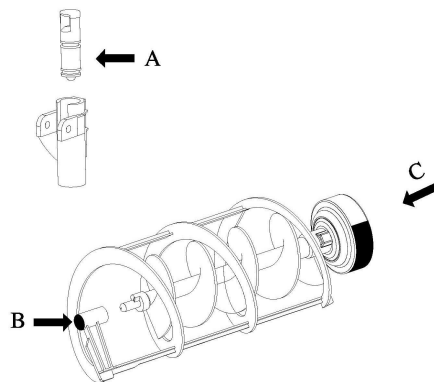

figure 7
2. Lubricate the faucet piston, inside auger and outer spiral (see points A,B and C of figure 7) only with the grease supplied by the manufacture or other “food grade approved ”lubricant.